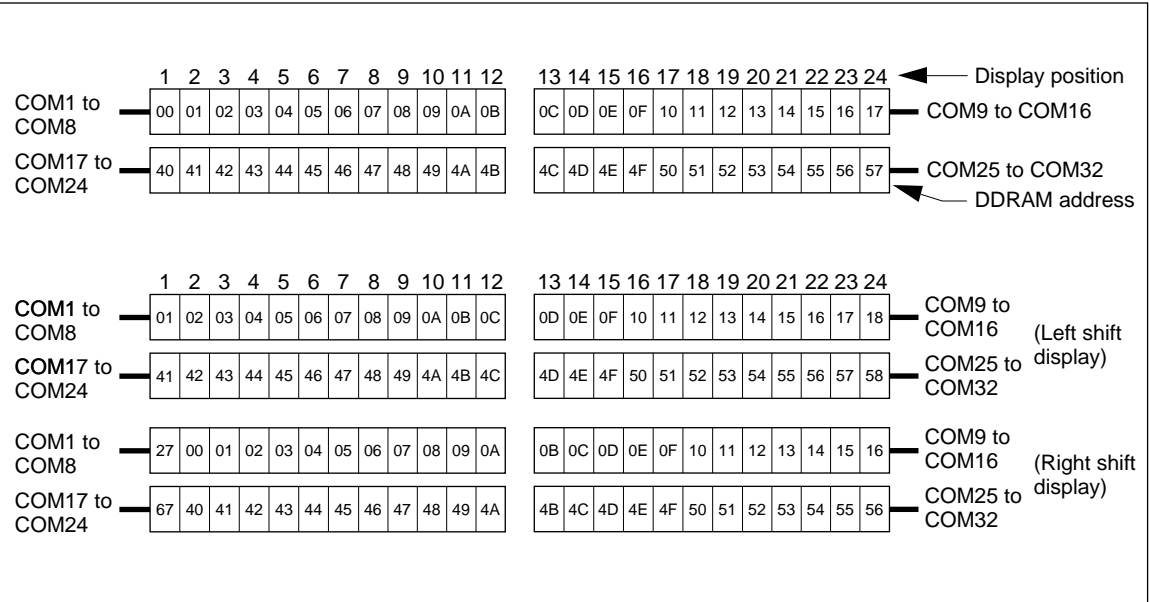

Figure 5 2-Line by 24-Character Display (5-Dot Font Width)
- Case 1: The first line is displayed from COM1 to COM16, and the second line is displayed from COM17 to COM32. Note that the last address of the first line and the first address of the second line are not consecutive. Figure 5 shows an example where a 5-dot font-width 24 × 2-line display is performed using one HD66712. Here,